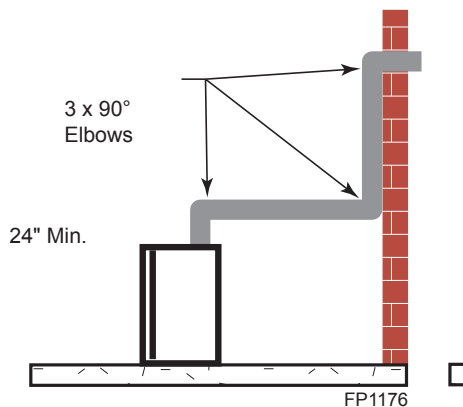

Figure 14 -
- The maximum number of 90° elbows per side wall installation is three (3). *Figure 14*